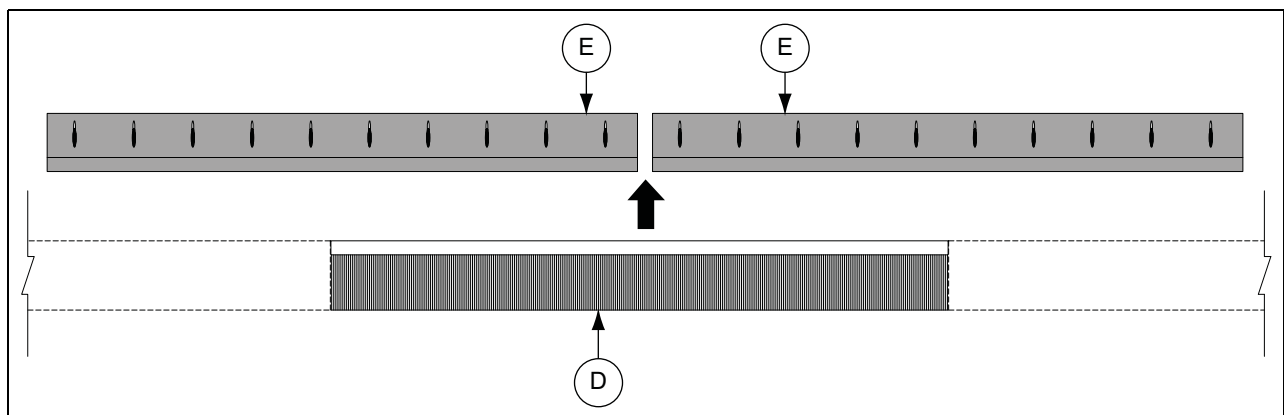

Figure 7J
- Assemble brush (D) to brush holder (E) to the desired length and cut brush holder (E) with a suitable device. Crimp the two (2) ends of the brush holder, locking the brush in place. (See Figure 7J.)